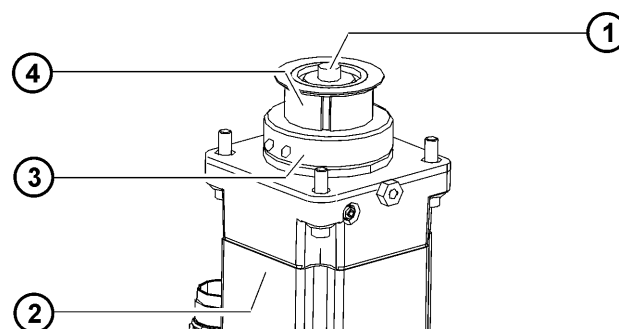

Fig. 11-10: Motor with toothed belt pinion
6. Remove the Allen screw (>>> Fig. 11-10) and take off the disc.